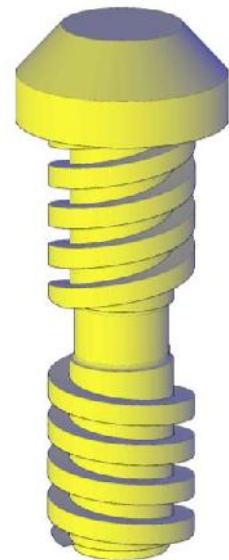
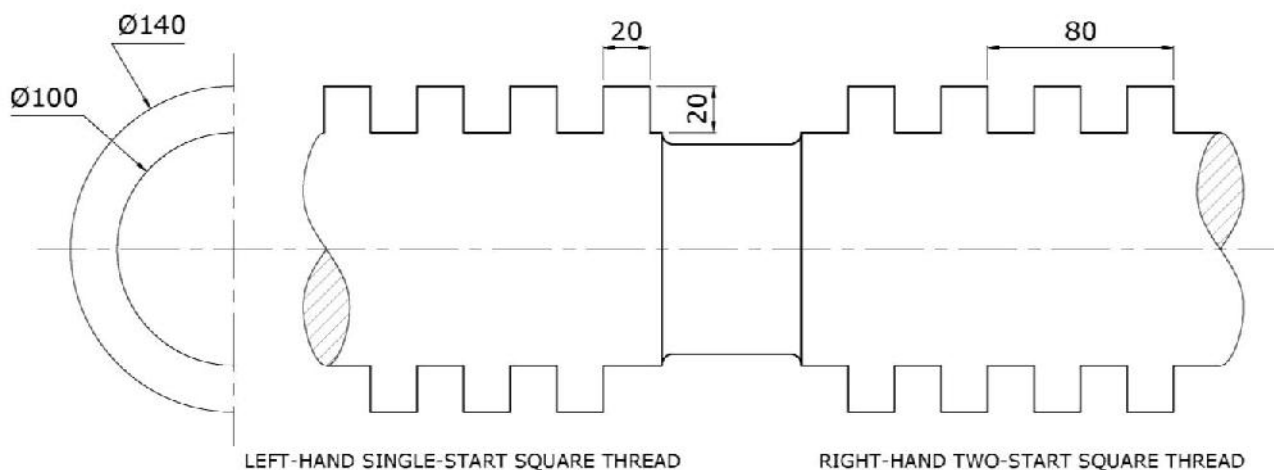

Figure 5a
Figure 5b
5. An arrangement of a special screw of a rapid and slow feed mechanism is illustrated in Figure 5a. A left hand single start square thread and a right hand two start square thread were cut on the machined bar. The helices on each thread have been omitted from the elevation shown in Figure 5b.
Construct, full size, the elevation of the machined bar shown in Figure 5b, containing: